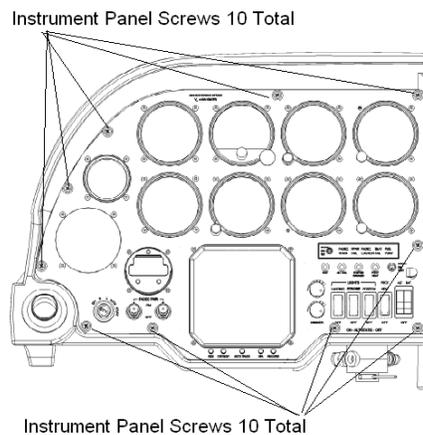

Figure 31-10 Location of the Ten Screws Securing The Instrument Panel
9. Install the ten screws to secure the instrument panel to the console. See Figure 31-10 for the location of the ten screws.